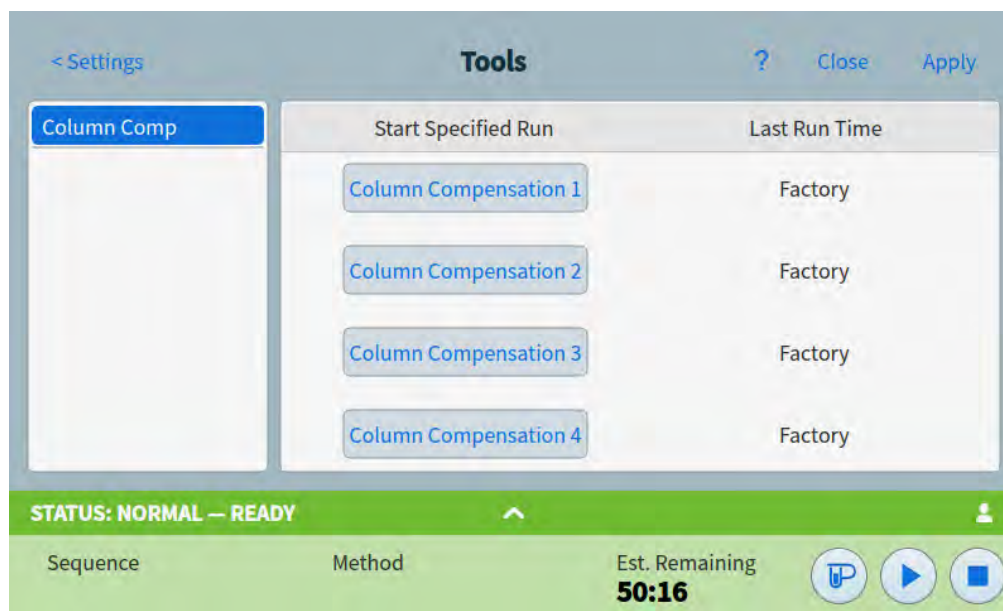

Figure 54. Tools page
The Tools page allows you to perform column compensation runs for the installed columns on the GC. See **Figure 54**.
- 1 With the Tools page displayed, as shown in **Figure 54**, select the desired **Column Compensation** in the **Start Specified Run** column. The GC performs the column compensation run. No injection occurs as a part of this run.